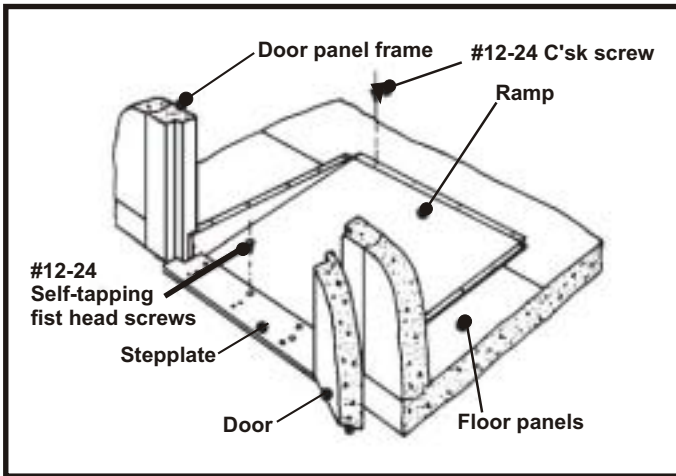

Fig. 38
- C. Secure the stepplate to the ramp while the door is open. Use a 3/16" d. Bit to drill through the prepunched holes in the stepplate and into the ramp. Secure with #12-24 self-tapping flathead screws. See Fig. 38.